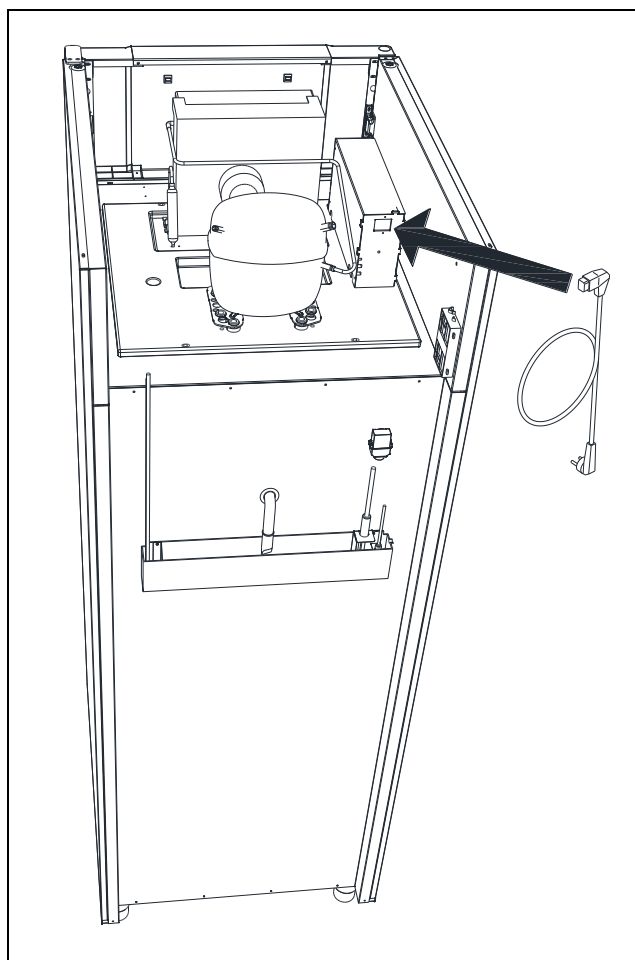

Fig. 7
The cabinet is intended for connection to alternating current. The connection voltage (V) and frequency (Hz) are shown on the name plate in the cabinet (see Fig. 10, page 49). Only the supplied detachable cord is to be used (see Fig. 7).